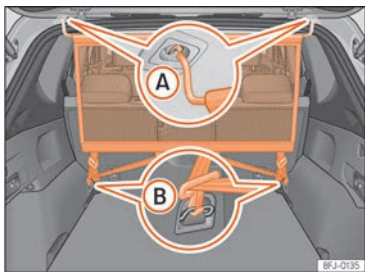

Fig. 133 Net partition fitted.
- Secure the net partition in the left housing of the roof »» Fig. 133 (A). Make sure to move the cross rod down beyond the upper position.
- Hook in the net partition on the rear right-hand side roof housing by pressing on the rod »» Fig. 133 (A).
- Secure two hooks of the partition net to the fastening rings of the boot »» Fig. 133 (B) and tighten the straps firmly.
- Release the net hooks from the fastening rings »» Fig. 133 (B).
- Unhook the net partition on the right-hand side roof support »» Fig. 133 (A) by pressing on the rod.